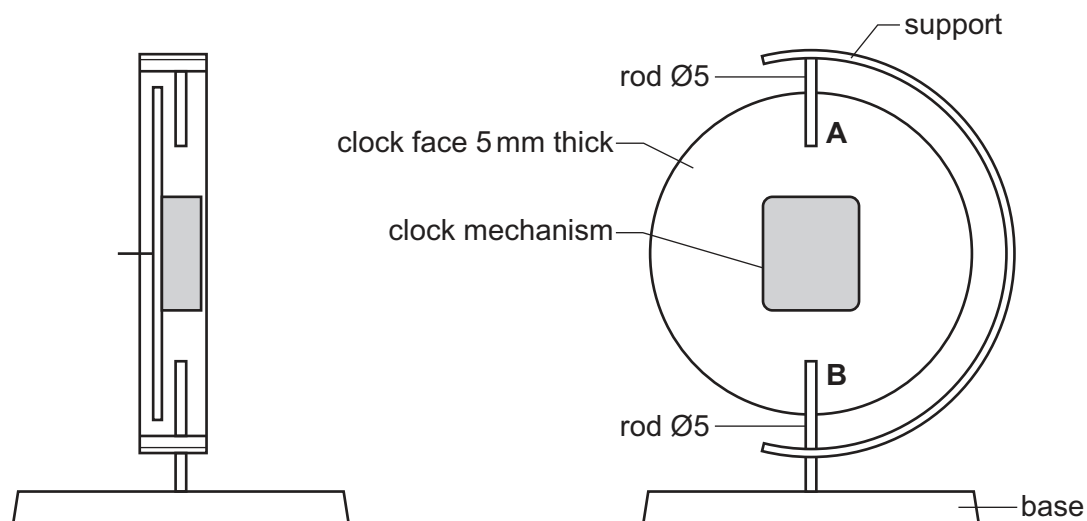

Fig. 12.4
- (g) Fig. 12.4 shows views of the side and back of the clock. The clock face will be joined to the base and support using two $\text{Ø}5$ acrylic rods labelled **A** and **B**.